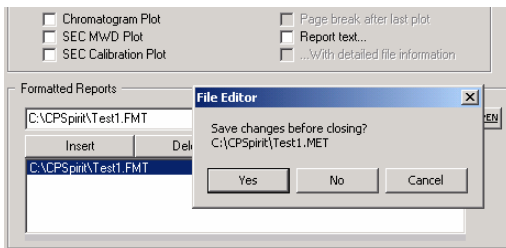

Figure A-36: Save Test1.MET Method File
8. Save the changes into the method file **Test1.MET** as shown in Figure A-36.